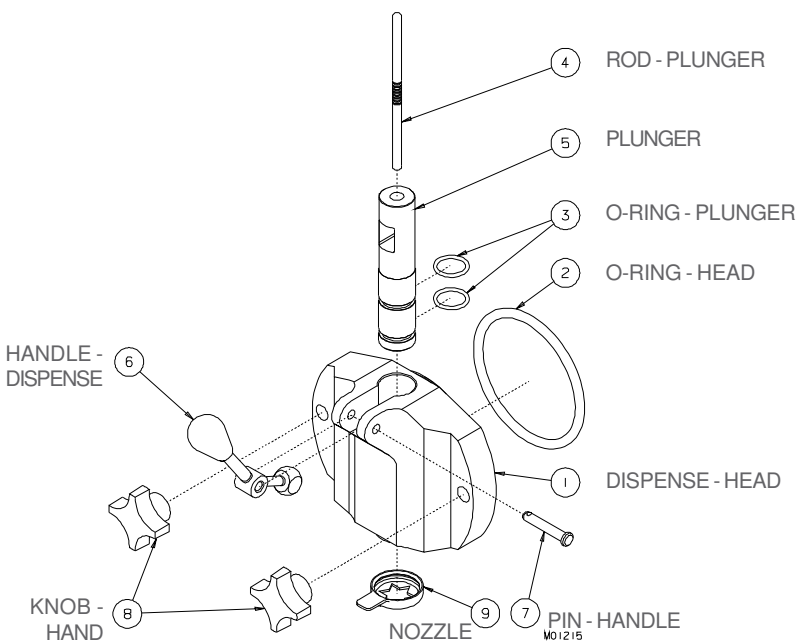

Figure 7-2
1. Remove plunger rod (4, figure 7-2), hand knobs (8) and pull dispensing head (1) straight out.
2. Remove the handle pin (7), plunger (5) and nozzle (9) from head (1).
3. Remove O-ring (figure 7-2, 2) from head (1). Remove O-rings (3) from plunger (5).